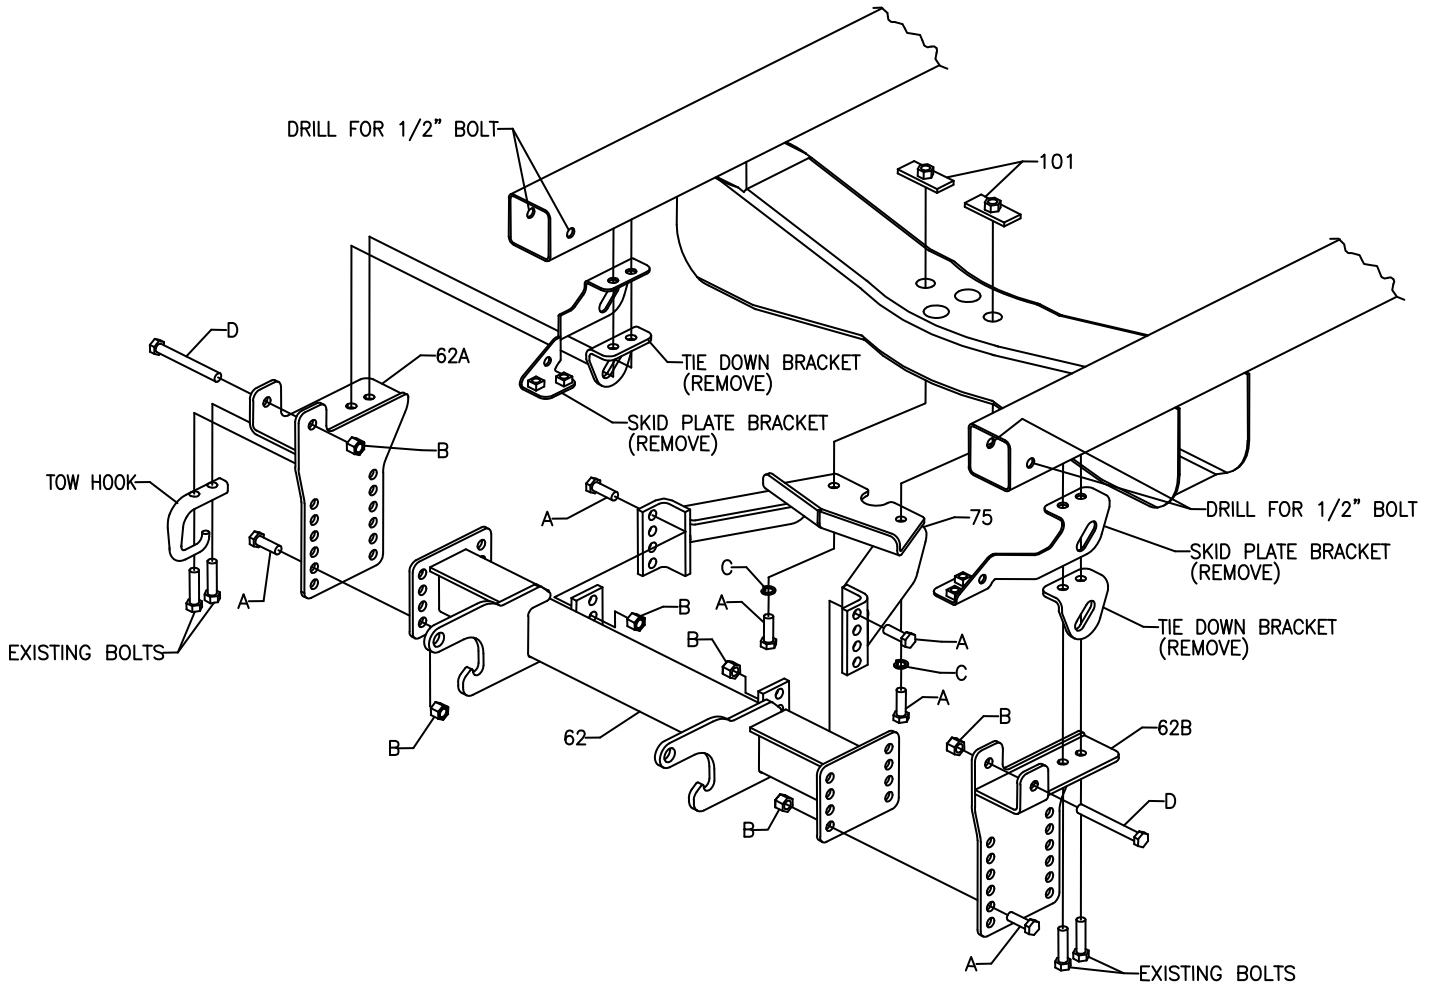

Figure 1
2. Remove the bolts connecting the tow hook, tie down brackets, and skid plate brackets (Refer to Figure 1) to the bottom of the frame. The bolts and tow hook will be used in the undercarriage installation.
3. Assemble Driver Side Push Beam Support Plate (62B) to the bottom of the driver side frame rail. Begin by installing the bolts removed in Step 2 into the two holes in the bottom of Driver Side Push Beam Support Plate (62B). Tighten these two bolts. Next, drill the inside and outside frame wall for the upper hole in Driver Side Push Beam Support Plate (62B). Install one ½"-13 X 4-1/2" Hex Head Bolt (D) and one ½"-13 Lock Nut (B) in the drilled hole. Tighten this bolt.
4. Repeat Step 3 on the passenger side frame rail. Include the tow hook over Passenger Side Push Beam Support Plate (62A). The skid plates, tie down brackets, and skid plate brackets (See Figure 1) will no longer be used but should be retained in case the undercarriage is ever removed.
5. Install Push Beam Assembly (62) between Push Beam Support Plates (62A & 62B) using eight ½"-13 X 1-1/2" Hex Head Bolts (A) and eight ½"-13 Lock Nuts (B). For Light Duty Plow applications, the center of the receiver hole in Push Beam Assembly (62) should be 14-1/2" from the ground. Leave hardware finger tight.
6. Assemble Angle Bracket (75) to the back of Push Beam Assembly (62) using four ½"-13 X 1-1/2" Hex Head Bolts (A) and four ½"-13 Lock Nuts (B). Leave hardware finger tight.
7. Assemble the rear portion of Angle Bracket (75) to the truck's cross member using two Nut Plates (101), two ½" Split Lock Washers (C) and two ½"-13 X 1-1/2" Hex Head Bolts (A). Nut Plates (101) must be inserted into the cross member through the large hole in the rear of the cross member.
8. Tighten all hardware beginning at the rear of Angle Bracket (75) and working forward.